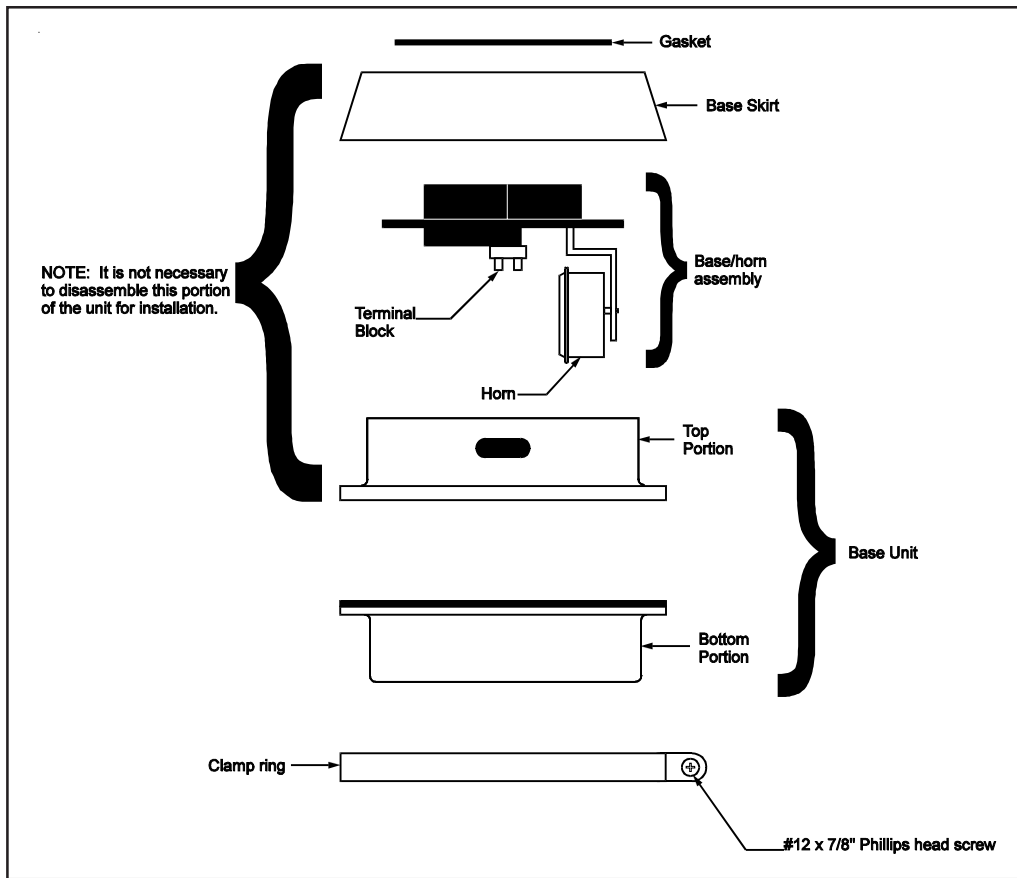

Figure 2. Catalog Series 101BS AdaptaLight Base Unit Assembly
1. Mount the base vertically either facing up or down using one of the following procedures (Figures 2 and 3).
Assemble the base unit and place the base gasket on top as shown in Figure 2.
- b. Remove three phillips head screws from top of base skirt and remove the base skirt and the base/horn assembly from the top portion of the base (Figure 2).
- c. Remove the phillips head screw securing the horn to the mounting bracket (Figure 2).